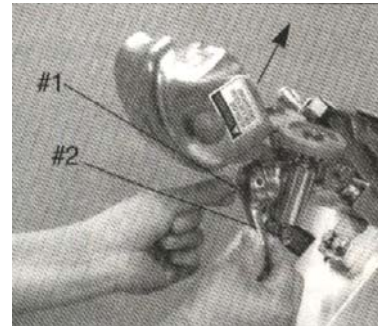

Fig.17-1
1. Pull on knob #1 (Fig.17-1) keeping it extended. Also, hold onto lever #2 and swing sharpener in position by lifting upward.